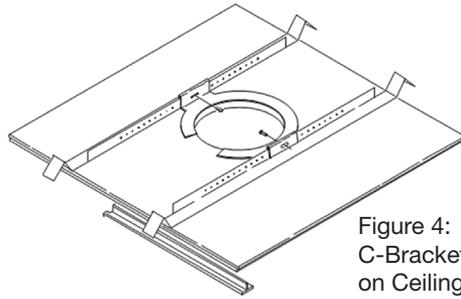

Figure 4:
**Suspended Ceilings** – Insert the C-ring through the hole cut in the ceiling tile (or set it in place from above the ceiling, if there is access). Place the C-ring around the hole with the tabs located as shown on Figure 4. Insert the tile rails through the cut hole in the ceiling tile. Snap the two rails into the two tabs in the C-plate and align the rails so that the ends extend OVER the T-channel grid on the side of the tile. Secure the rails onto the C-ring tabs by inserting a screw through each tab into the rail. This can all be accomplished from below the ceiling tile, if necessary.